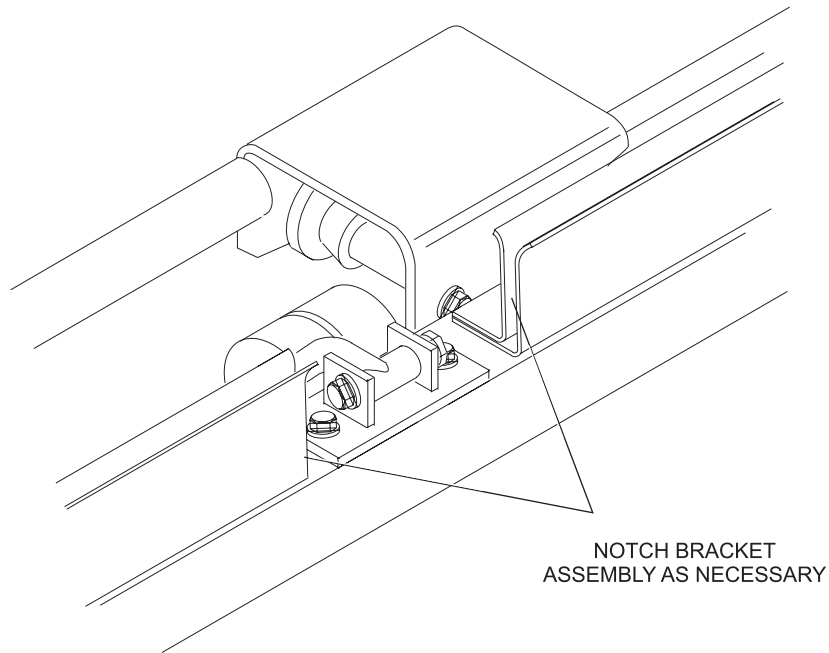

Figure 2
3. On some models of the Brunswick Pinsetter, there is a rear bracket assembly designed to hold the pin deflector (masonite board). This rear bracket must be notched to allow for unrestricted installation and function of the SBE II. Refer to *Figure 2*